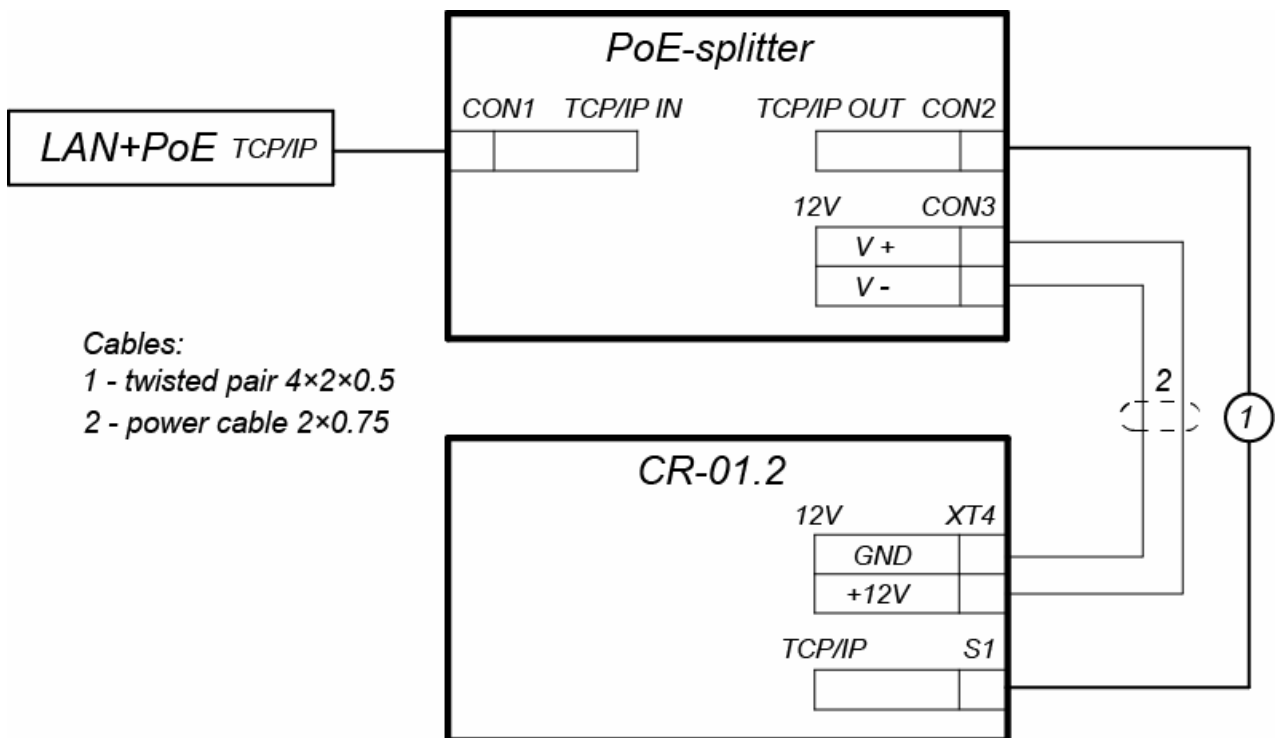

Figure 3. Controller connection scheme through PoE-splitter
3. Connect controller power-supply circuits to **Con3** output of the splitter. Connection scheme is given in Figure 3 ((attachment plug for connection to the output is included into splitter delivery set).